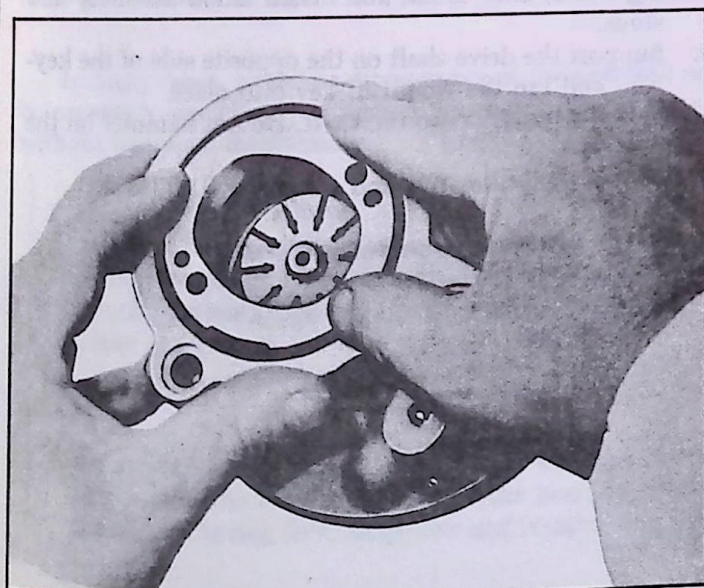

Fig. 25—Installing Pump Ring
7. Install the pump ring onto the dowel pins with the direction of rotation arrow to the rear of the housing (fig. 25). Rotation is clockwise as viewed from the pulley end of the shaft.